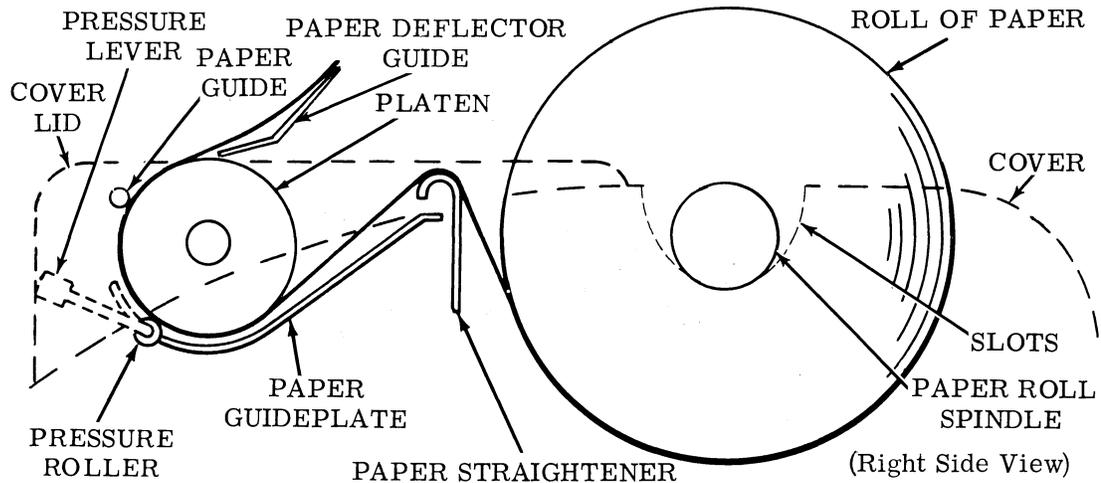

Figure 8 - Paper Threading — Friction Feed
3.11 A friction feed teletypewriter set accommodates a standard roll of paper 8-1/2 inches wide and 5 inches in diameter. Figure 8 illustrates paper threading for a friction feed typing unit.